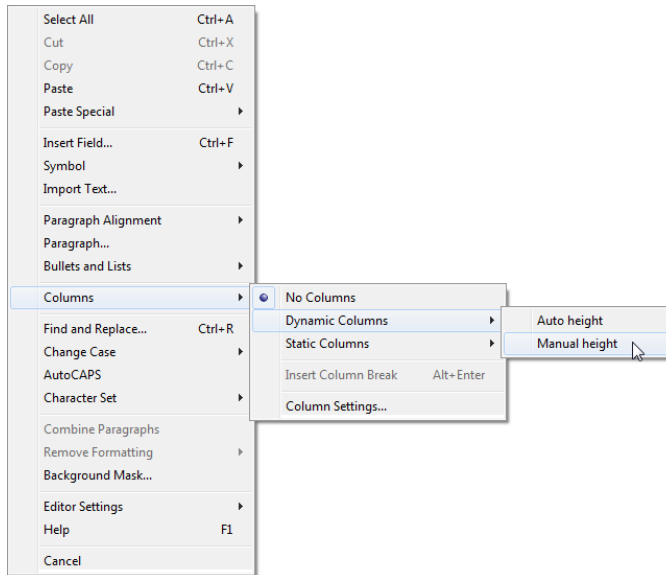

FIGURE 13-3: Right-click your way to textual excellence.
10. If you want to set other formatting options, select text, right-click, and make an appropriate choice from the menu, as shown in Figure 13-3.